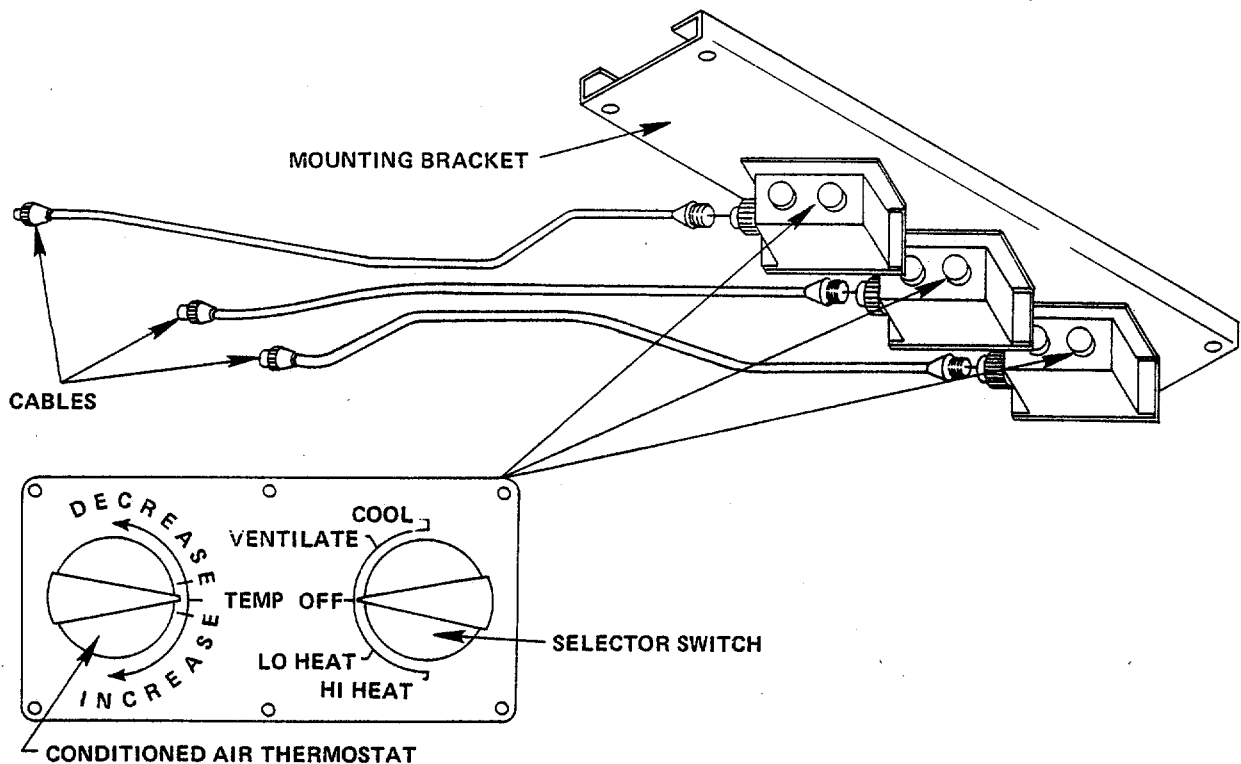

Figure 3-2. Air Conditioner Control Unit
j. *Air Conditioning.* Air conditioning controls mounted, on the ceiling of the shelters will control all three shelters on the AN/MSA-34 semitrailer when the central is deployed as part of an OUTS complex (figure 3-2). Select desired air conditioning.